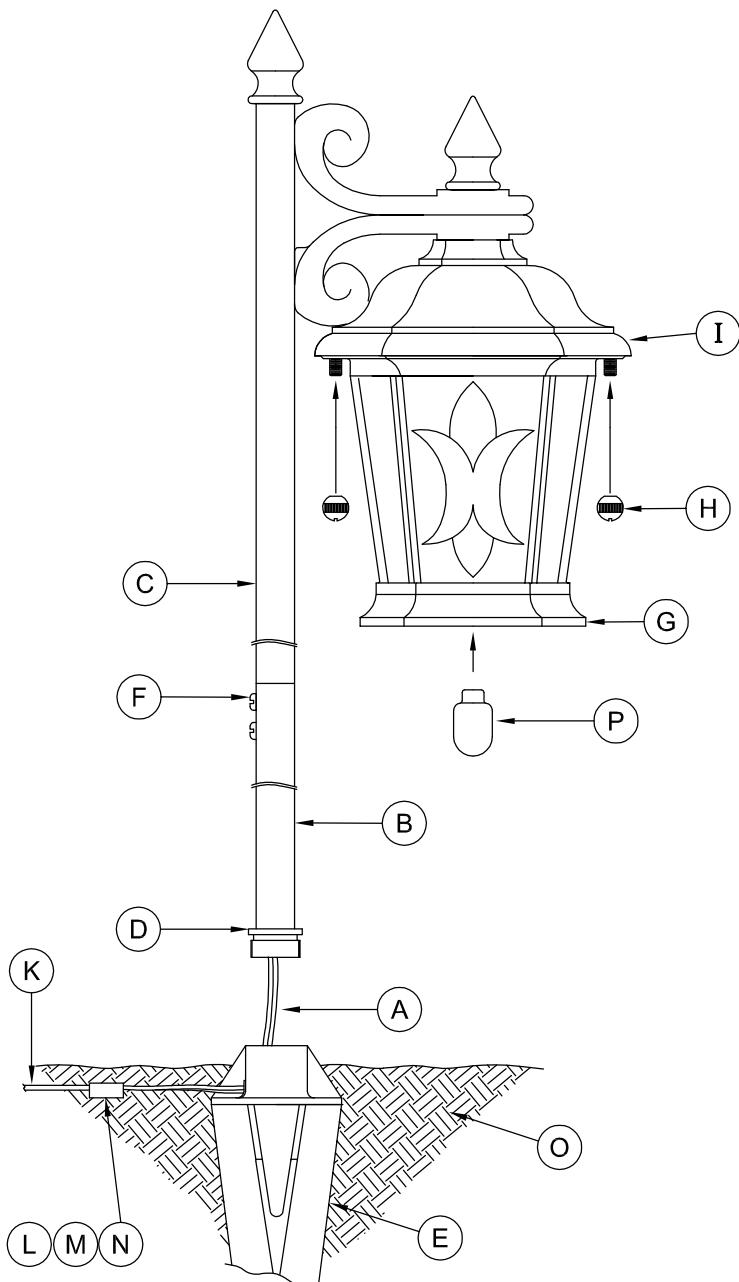

FIG. 1
5. E → O (FIG. 1)
| 5. E → O (FIGURE 1) |             |